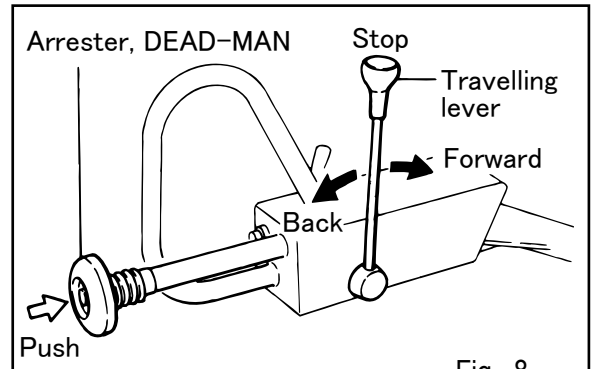

Fig. 8
- With travel lever placed in reverse, push Arrestor, DEAD-MAN to verify that travel lever returns to neutral position. (Fig.8)
- Pushing travel lever slightly forward, causes the roller to travel forward at micro speed. Pushing it further, increases the travel speed. Depending on how you move the travel lever, travel speed can be varied steplessly between 0 and 3 km/h (for both forward and reverse). Pulling the lever back causes the roller to travel backward. (Fig.8)